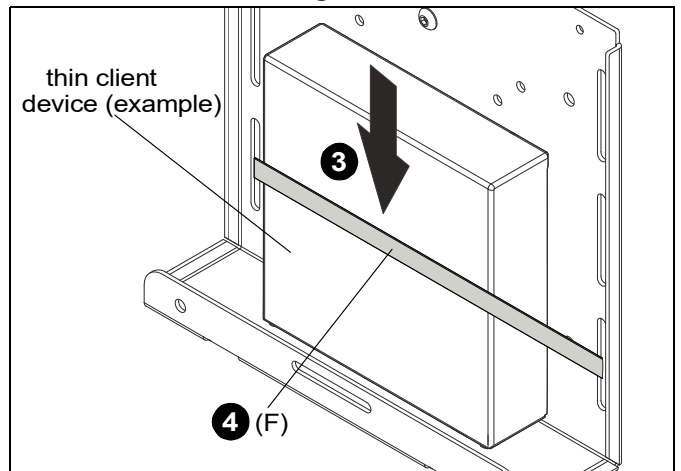

**Figure 6**
1. (Optional) Attach up to four adhesive-backed pads (G) to inside of thin client bracket(s) (E) as desired. (See Figure 6)